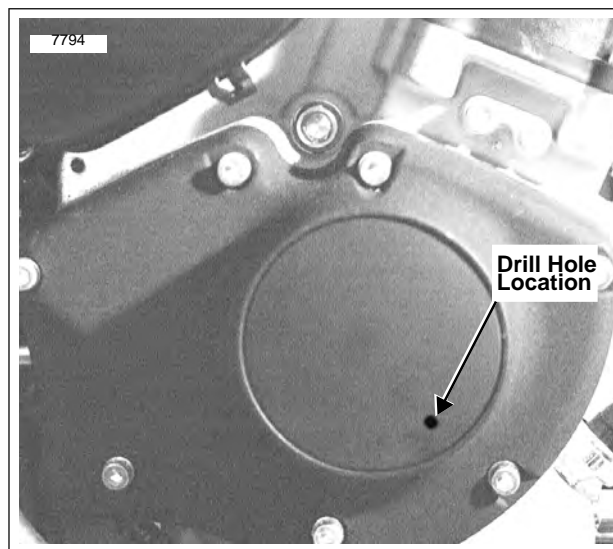

Figure 7-18. Drilling/Removing Timer Cover
See Figure 7-18. The rotor cup is located in the gearcase cover on the right side of the vehicle behind the integrated ignition module. The rotor is mounted on the camshaft and operates at one-half crankshaft speed. See IGNITION TIMING for information on the function, testing and adjustment of the integrated ignition module and trigger rotor assembly.
7. See Figure 7-18. Drill hole in outer timer cover at 5:00 position approximately 1/2 inch (13 mm) in from outside edge. Pull out outer timer cover using 90 degree pick or other suitable tool.
7. See Figure 7-18. Drill hole in location shown and remove outer timer cover, if not removed.
10. See Figure 7-18. Tighten module plate screws to 15-30 **in-lbs** (1.7-3.4 Nm)
2. See Figure 7-18. Drill hole in outer timer cover at 5:00 position approximately 1/2 inch (13 mm) in from edge. Pull out outer timer cover using 90 degree pick or other suitable tool.
See Figure 7-18. The ignition coil is a pulse-type transformer. Internally, the coil consists of primary and secondary windings with a laminated iron core. The contents are sealed in a waterproof insulating compound. The ignition coil is not repairable. Replace the unit if it fails.